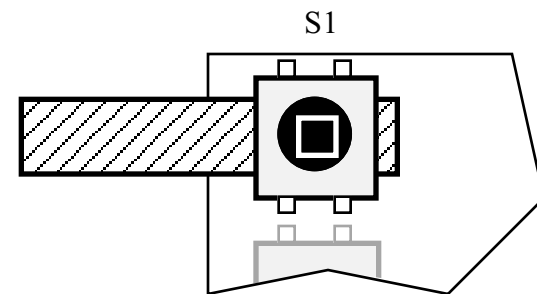

Figure 5-2
- ☐ Position push-button switch S1 on the top side of the board as shown in Figure 5-2, using the switch spacing tool to set the switch height. Make sure all four legs of the switch are centered in their holes, then gently push the switch until it is resting flush against the switch-spacing tool. (Caution: switch pins are fragile.) *Do not solder yet.*